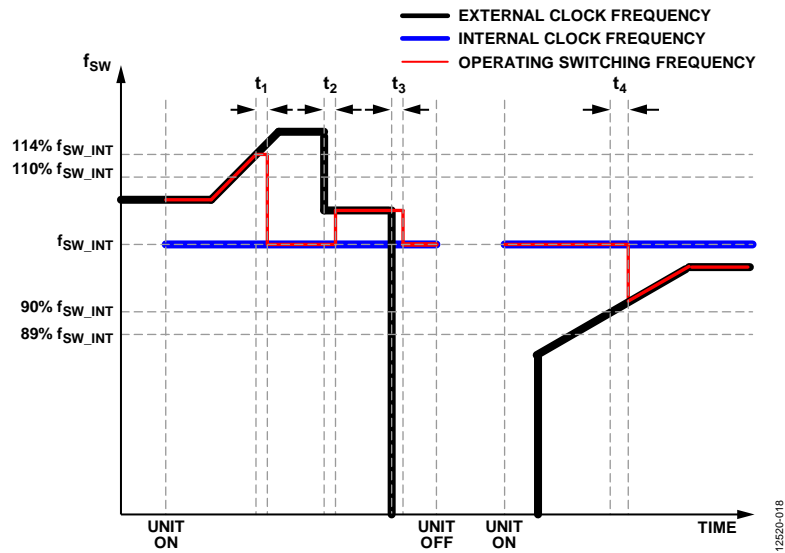

Figure 17. Synchronization Operation
2. If all the periods of the consecutive 64 most recent cycles of the external clocks fall within 90% to 110% of the internal switching clock period, the ADP1052 uses the latest current cycle as the synchronization reference, and the period of the external clock is identified. This interval is  $t_2$  or  $t_4$ , as shown in Figure 17. Otherwise, the ADP1052 discards this cycle and looks for the next cycle (frequency capture mode).
5. If the external clock signal is lost at any time, or if the period exceeds the minimum limit (89% of the internal programmed frequency) or the maximum limit (114% of the internal programmed frequency), the ADP1052 takes the last valid external clock signal as the synchronization reference source. At the same time, the phase shift between the synchronization reference and the internal clock is detected. When the phase shift falls within the phase capture range, the PWM clock returns to the internal clock set by the internal oscillator. This interval is  $t_1$  or  $t_3$ , as shown in Figure 17.
Figure 17 shows the synchronous operation. The internal frequency,  $f_{SW\_INT}$ , is the internal free running frequency of the ADP1052. Before the synchronization is locked, the ADP1052 runs at  $f_{SW\_INT}$ . The external frequency,  $f_{SW\_EXT}$ , is the frequency